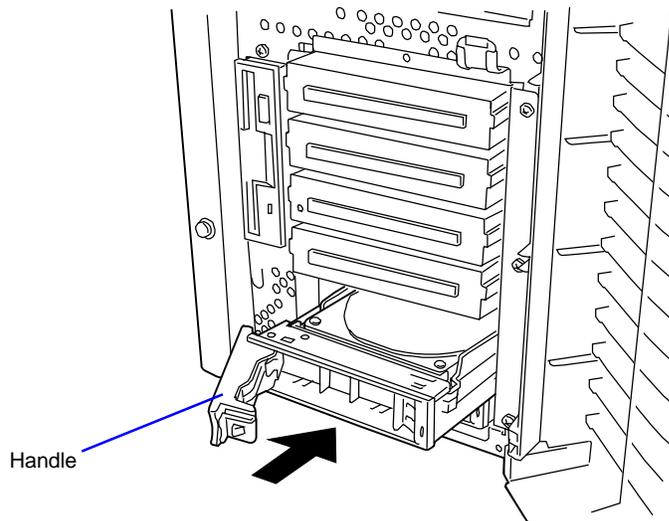

Figure 4-21. Installing the Hard Disk Drive
7. Slide the drive carrier into the bay until it docks with the SCSI backplane connector. See Figure 4-21.